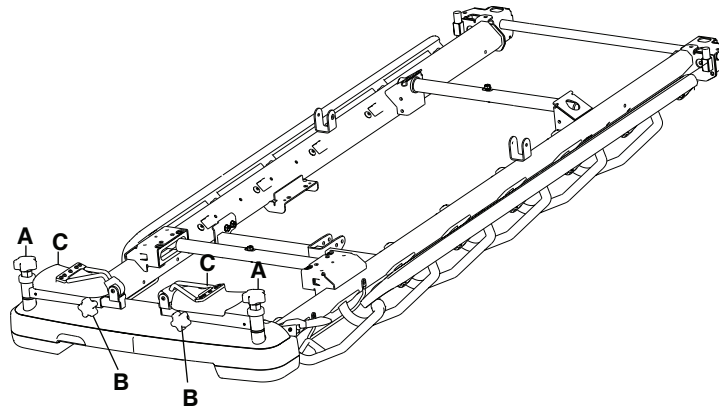

Figure 25 – Stowing the foot supports
3. Loosen the leg knob (B) on the side of the foot supports to adjust the length.
4. Tighten the leg knob (B) to lock the foot supports in the desired position.
5. Flip the foot supports (C) up before you position the patient.
6. Reverse steps to stow the foot supports (Figure 25).